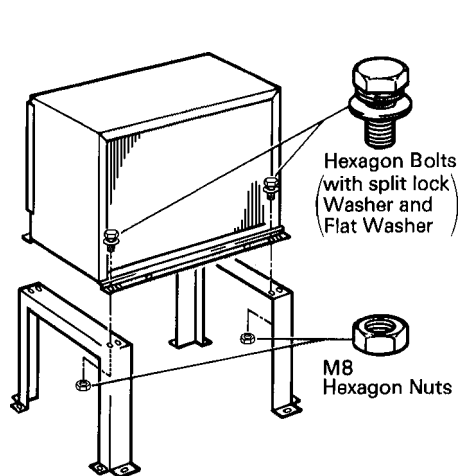

Fig. 6
- 1) Secure the Legs to the condenser unit with eight M8 x 16 mm Hexagon Bolts and M8 Nuts as shown in the illustration. See Fig. 6.